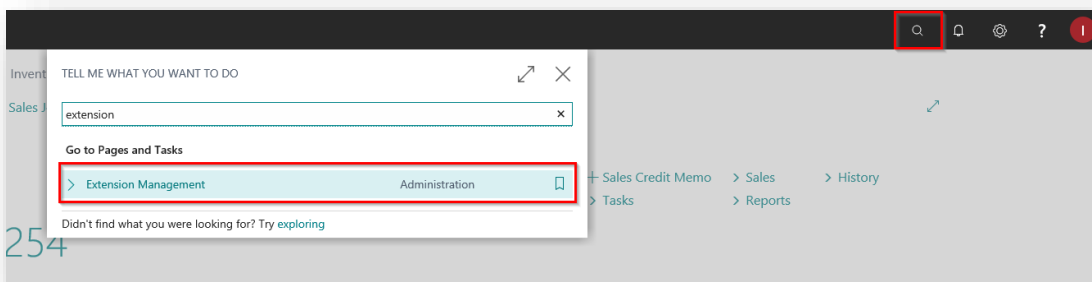

Figure 5-1
1. Open your Dynamics 365 Business Central Web Client and use the **Tell Me** to search for **Extension Management** (Figure 5-1).